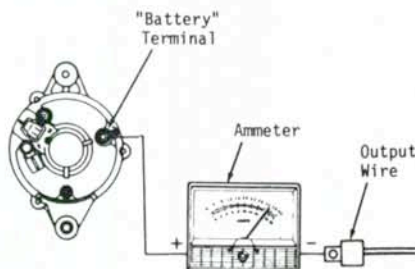

Fig. 150—Connect an ammeter in series with alternator "battery" terminal and output wire as shown to check alternator current output.
91. OUTPUT TEST. To check alternator output, disconnect output wire at alternator and connect a test ammeter in series with alternator output terminal and wire as shown in Fig. 150. Connect a load tester and voltmeter to battery terminals.